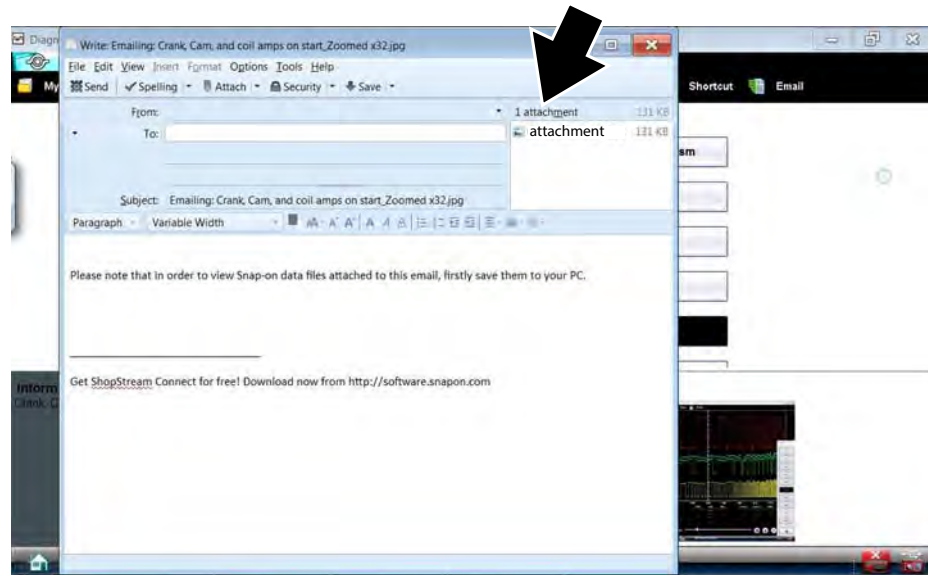

Figure 11-8
3. A new e-mail message window displays with the selected file attached (Figure 11-8).